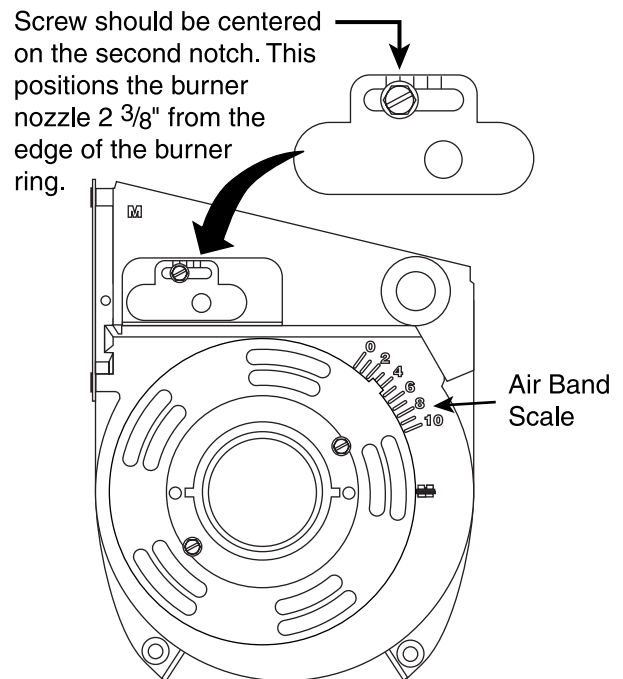

Figure 29. Nozzle Adjustment.
2. Set end air band between 3.5 - 4.0 on scale (see Figure 29).